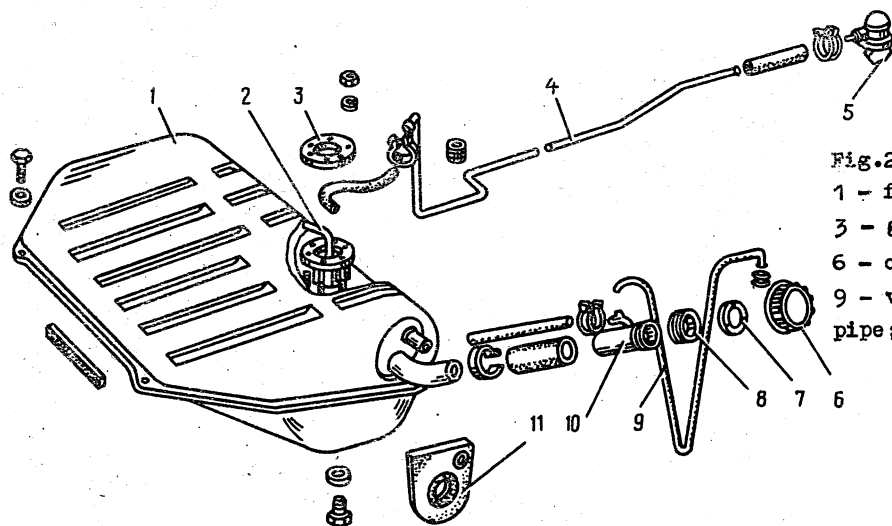

Fig.2-79. Fuel Tank and Piping:
- unscrew cap 6 (Fig. 2-79) of filler pipe 10 and drain gasoline;